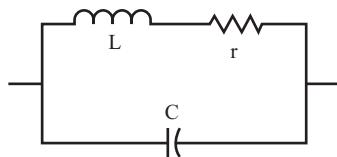

FIGURE 12.10
- 47.** In the circuit shown in Figure 12.10, $L = 10 \text{ mH}$, $C = 0.02 \mu\text{F}$, and $r = 7 \text{ ohms}$.